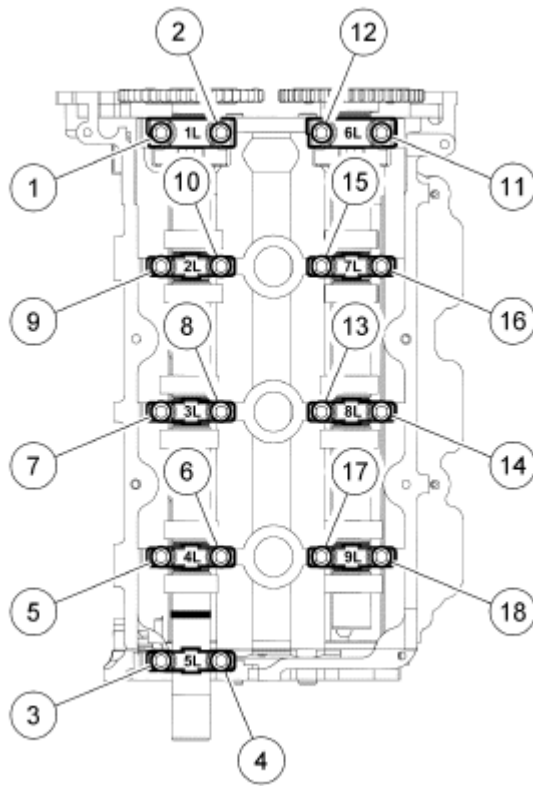

Fig. 69: Identifying Loosening Sequence Of Camshaft Bearing Thrust Caps
7. Loosen the bolts evenly in the sequence shown in **Fig. 69**.